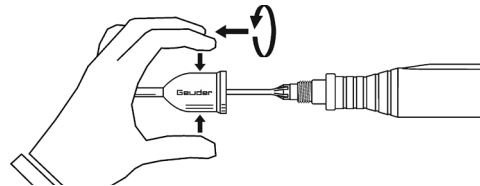

Fig. 4
- Remove the infusion sleeve according to fig 4:
- Grasp the infusion sleeve according to fig. 4 and screw it off of the ultrasonic tip.
- Remove the infusion sleeve according to fig. 4: